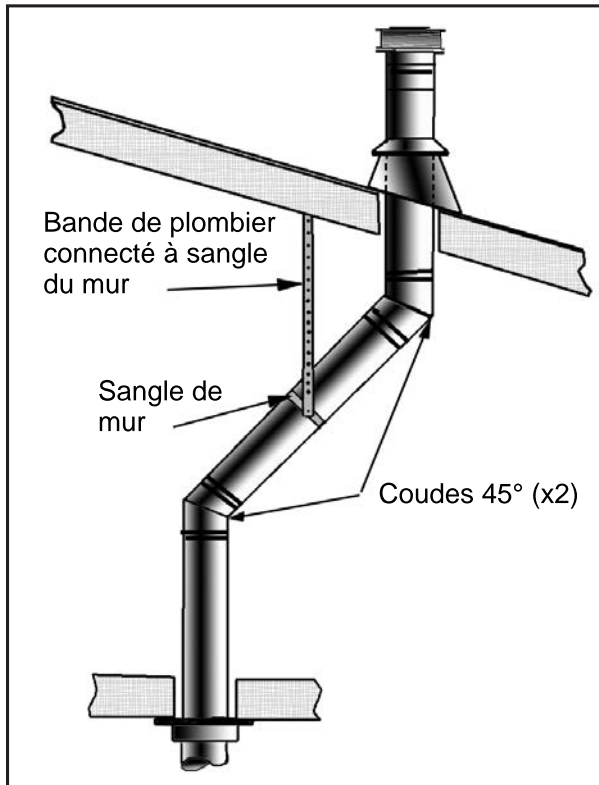
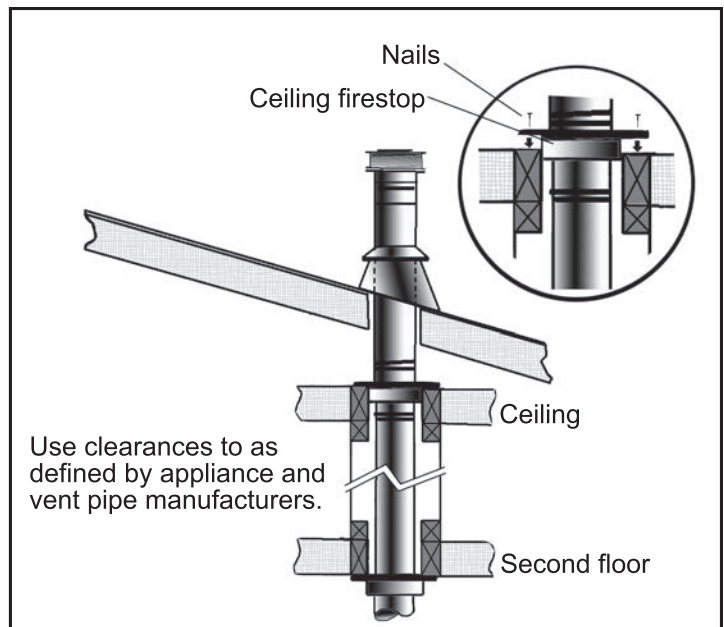

Figure 50. Use of Wall Straps.
Figure 51. Multi-Story Vent Pipe Installation.
- (1) If an offset is necessary in the attic to avoid obstructions, it is important to support the vent pipe every 3 feet (914 mm), to avoid excessive stress on the elbows, and possible separation. Wall straps are available for this purpose (see Figure 50).
- (2) When ever possible, use 45° degree elbows instead of 90° degree elbows. The 45° degree elbow offers less restriction to the flow of flue gases and intake air.
- (3) For multi story installations; a ceiling firestop is required at the second floor, and any subsequent floors (see Figure 51). The opening should be framed to 10" (254 mm) x 10" (254 mm) inside dimensions, in the same manner as shown in Figure 33.
- (4) Any occupied areas above the first floor, including